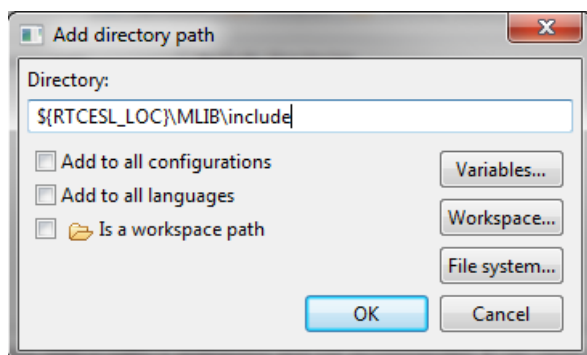

Figure 1-23. Library include path addition
16. Click the Add... button on the right, and a dialog appears. See Figure 1-23.